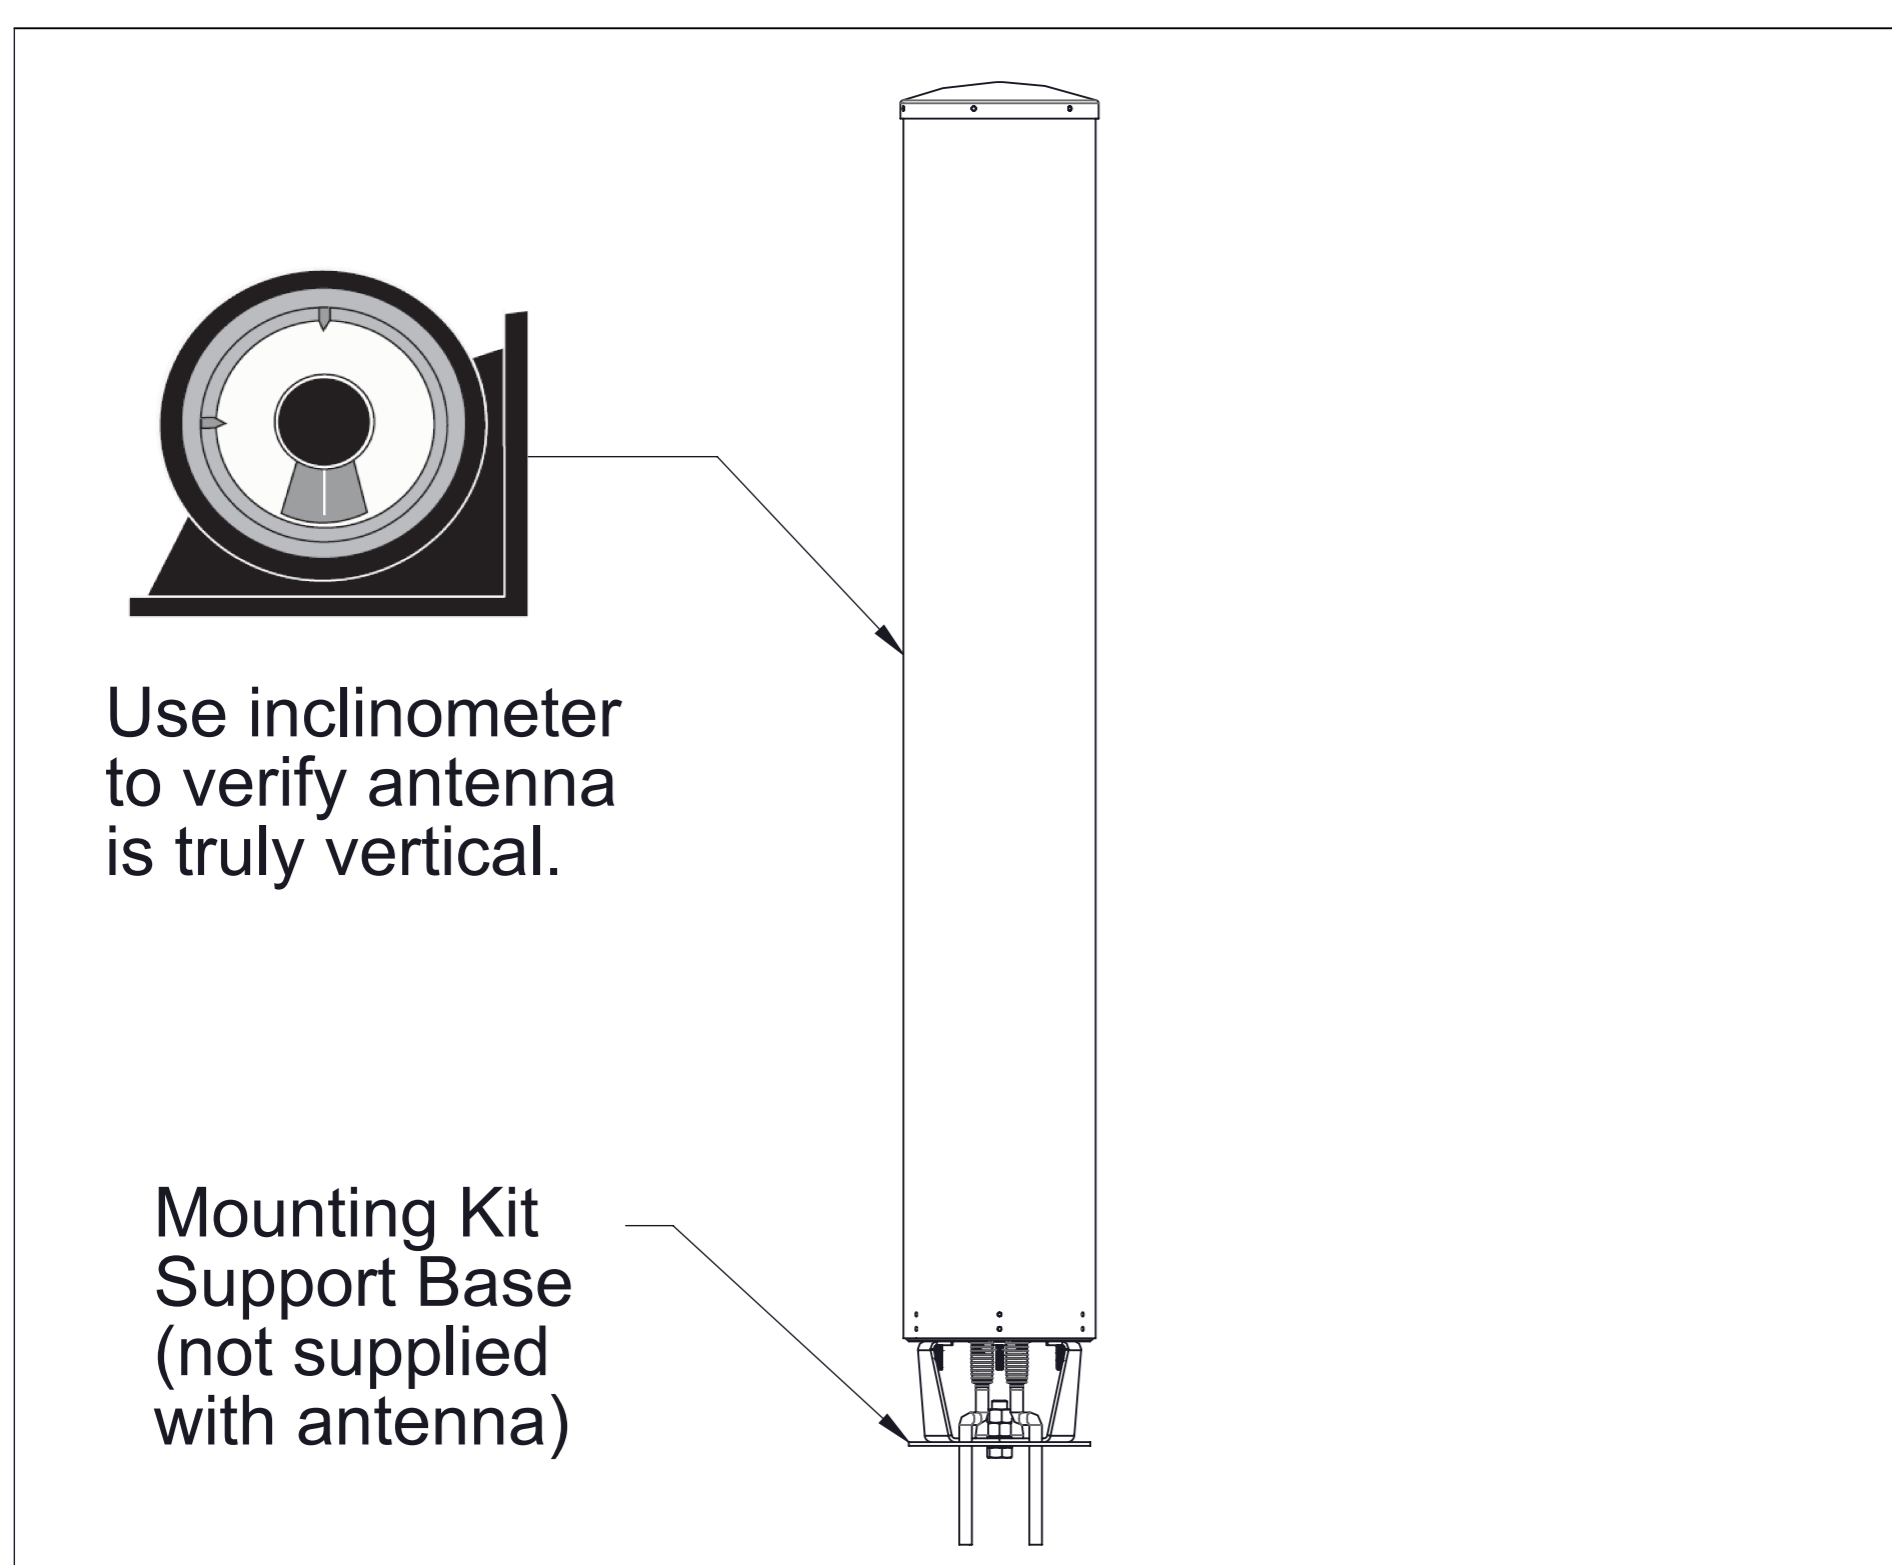

Figure 5. Routing RF Cable and Vertical Alignment
2. Attach the RF cables to the antenna input connectors and torque the 7-16 DIN connector to 25-30 Nm (220-265 LB-IN), and the 4.3/10 connector to 5-8 Nm (45-71 LB-IN), refer to Figure 5.